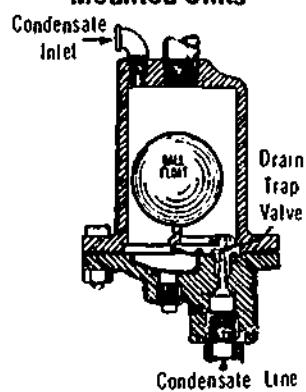

Figure 32-7. Automatic Condensate Drain Valve
10. Some receiver units are provided with an automatic condensate drain valve, or trap as it is sometimes called. The function of the drain valve is to expel the condensate moisture from the receiver and the aftercooler. (See Section 15 in this part of the manual.) As the receiver pressure rises, condensate in the bottom of the receiver is forced into the drain valve. The drain valve is of the ball-float type, therefore, as the water level in the trap rises the " " also rises and, through a linkage, opens the valve, expelling the water until the water level and the ball drop to a point of re-seating the valve. (See Figure 32-7.)